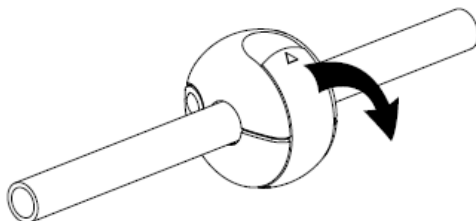

Fig. 4a
- Pull the lever to release the hose stop (1) (see Fig. 4a).